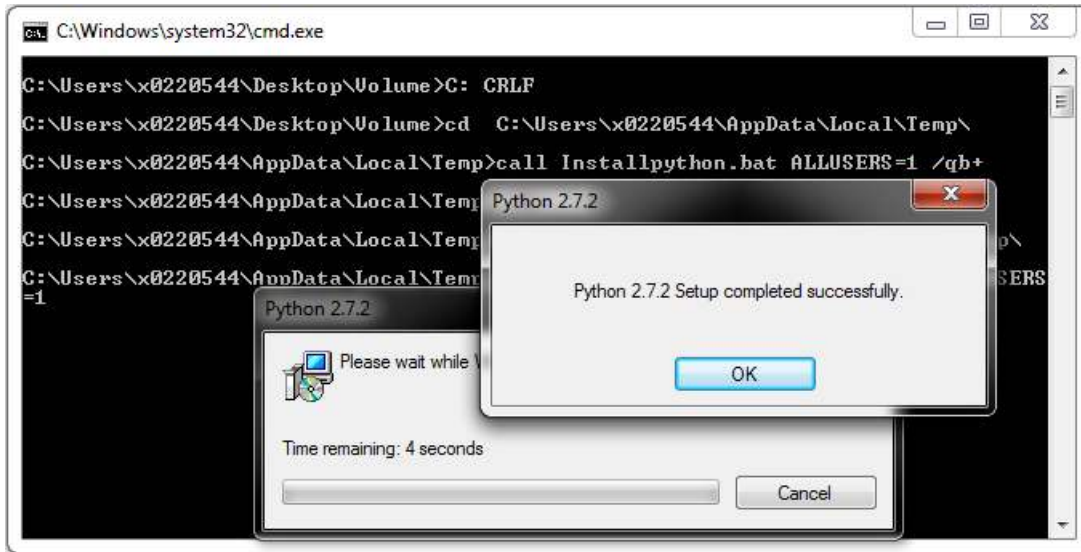

Figure 17. Python Installation Complete
- After the installation of the GUI, Python installation initiates. Once python is installed, a screen as shown in Figure 17 appears. Click the *OK* button to proceed with USB2ANY installation.